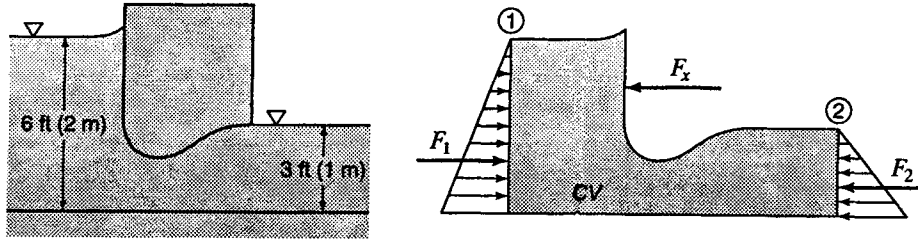

Figure S6.1
Sample Prob. 6.1: The passage at section (1) of Fig. S6.1 is 10 ft wide. Assume ideal flow.